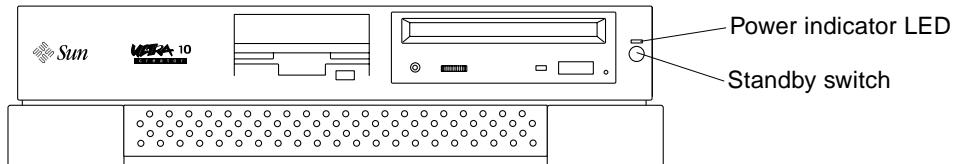
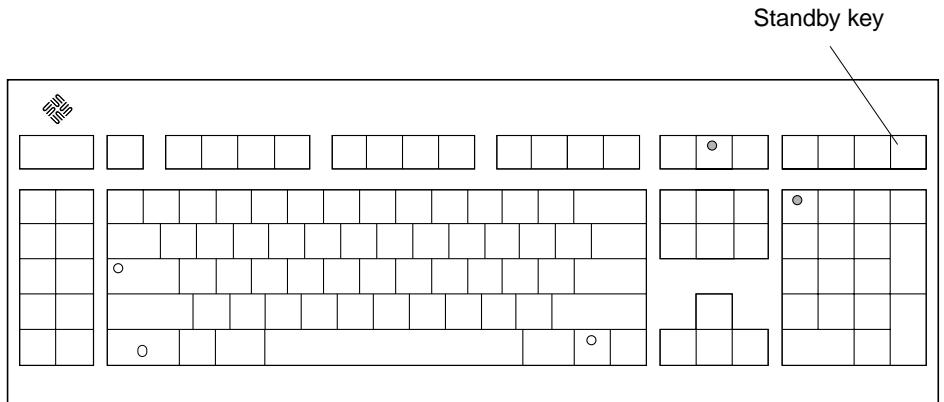
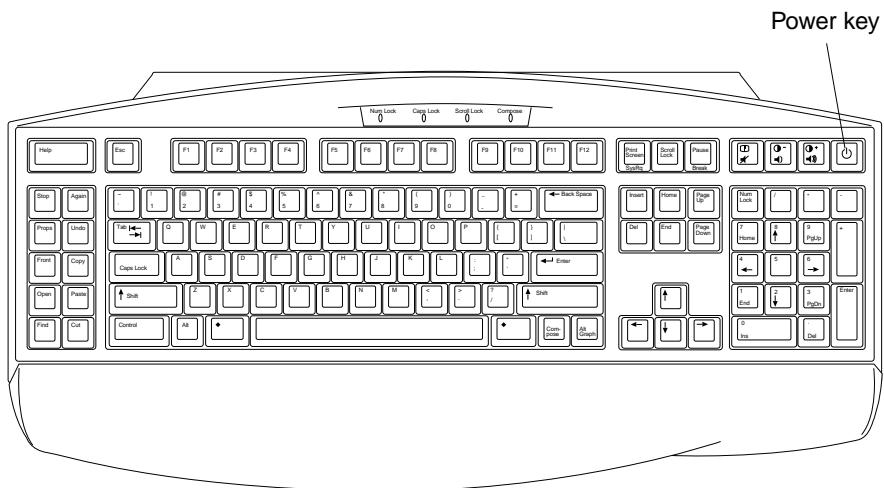

FIGURE 10-3 System Standby Switch
FIGURE 10-4 Sun Type-5 Keyboard
FIGURE 10-5 Sun I/O Type-6 Keyboard
5. Press the **Standby switch** (FIGURE 10-3), or press the **Sun Type-5 keyboard Standby key** (FIGURE 10-4) or the **Sun I/O Type-6 keyboard Power key** (FIGURE 10-5).